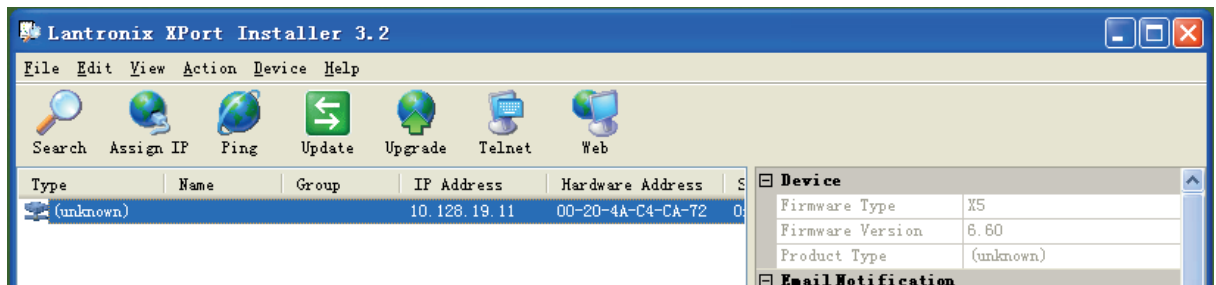

Figure 3: Searching for IP address of RV-TCPIP
(2). Click the icon of  , then you can search for the IP address of RV-TCPIP, shown as figure 3: